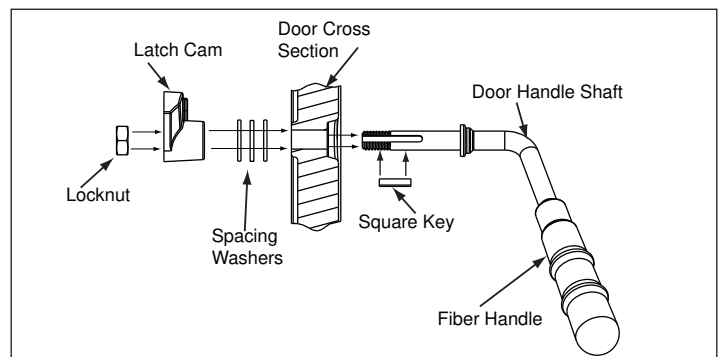

Figure 22.2 - Door Handle for Arched Door
3. Install additional washer(s) as shown in **Figure 22.2.**
7. Install handle turning in a counter-clockwise motion to desired location on door handle rod. **Figure 22.2.**